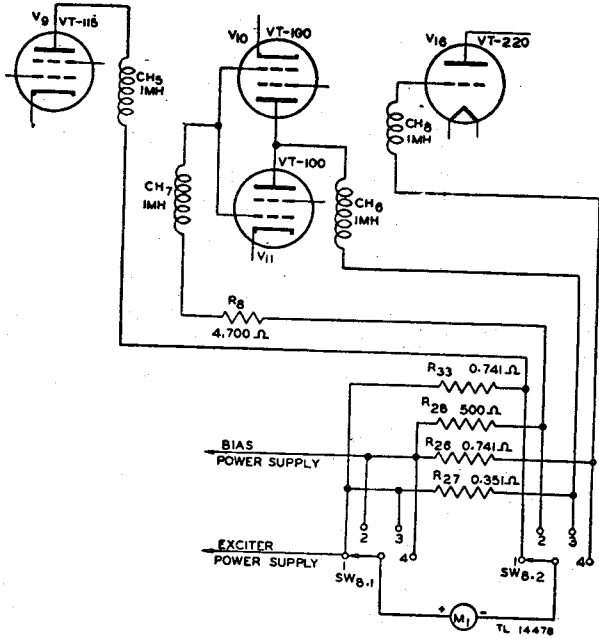

Figure 71. EXCITATION METER switch—functional diagram.
g. EXCITATION METER SWITCH SW8 (fig. 71). Switch SW8 is a two-section, four-position switch located on the front panel of the transmitter. It is controlled by a knob marked EXCITATION METER SWITCH. When the switch is set to DOUBLER PLATE, meter M1 is connected in the plate circuit of buffer-doubler tube V9. When the switch is set to INT. AMP. GRID, meter M1 is connected in the grid-return circuit of intermediate-amplifier tubes V10 and V11. When the switch is set to INT. AMP. PLATE, meter M1 is connected in the plate circuit of intermediate-amplifier tubes V10 and V11. When the switch is set to P.A. GRID, meter M1 is connected in the grid-return circuit of p-a tube V16.
c. EXCITATION METER M1 (fig. 71). The excitation meter indicates through a suitable switching arrangement, the buffer-doubler plate current, the intermediate-amplifier grid and plate currents, and the final p-a grid current. The excitation meter is a d-c milliammeter having scales of 0 to 15 ma, 0 to 150 ma, and 0 to 300 ma. When the EXCITATION METER SWITCH SW8 is set to DOUBLER PLATE, meter M1 is connected across resistor R33, which is in the plate circuit of buffer-doubler tube V9. The meter indicates the buffer-doubler plate current on the 0- to 150-ma scale. Resistor R33 is the meter shunt resistor. When switch SW8 is set to INT. AMP. GRID, meter M1 is connected across resistor R28, which is in the grid circuit of intermediate-amplifier tubes V10 and V11. The meter indicates the intermediate-amplifier grid current on the 0- to 15-ma scale. Resistor R28 is the meter shunt resistor. When switch SW8 is set to INT. AMP. PLATE, meter M1 is connected across resistor R27, which is in the plate circuit of intermediate-amplifier tubes V10 and V11. The meter indicates the intermediate-amplifier plate current on the 0- to 300-ma scale. Resistor R27 is the meter shunt resistor. When switch SW8 is set to P. A. GRID, meter M1 is connected across resistor R26 which is in the grid circuit of p-a tube V16. The